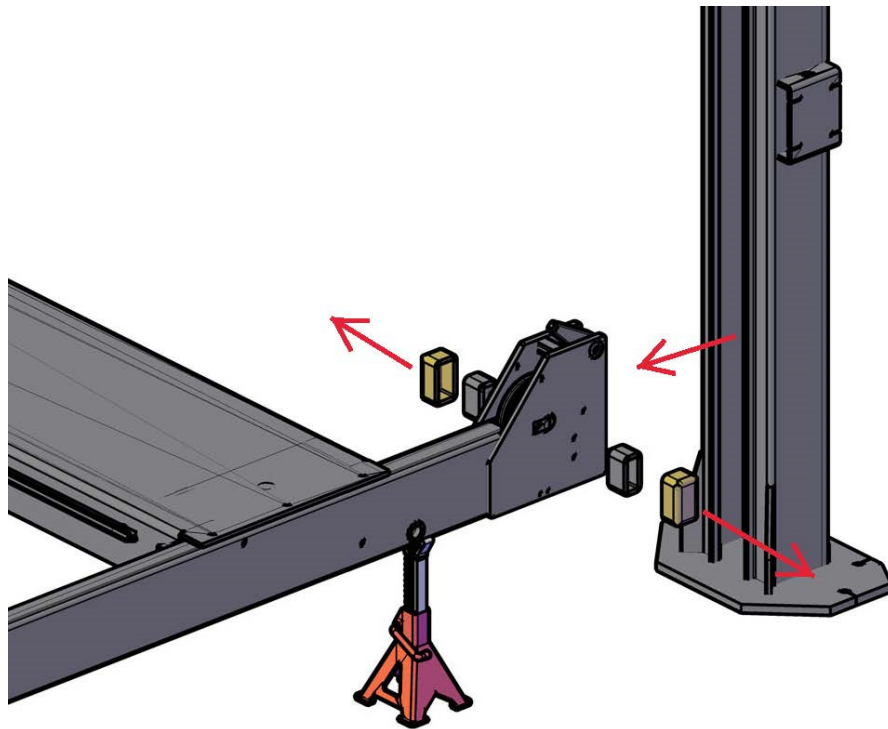

Figure 17. Tower Installation
1. Remove the slider block weldments from both crossmembers by removing the 3/8"-16UNC x 1"LG Hex HD Bolts and 3/8" lock washers attaching them to the crossmember. See **Figure 17**.